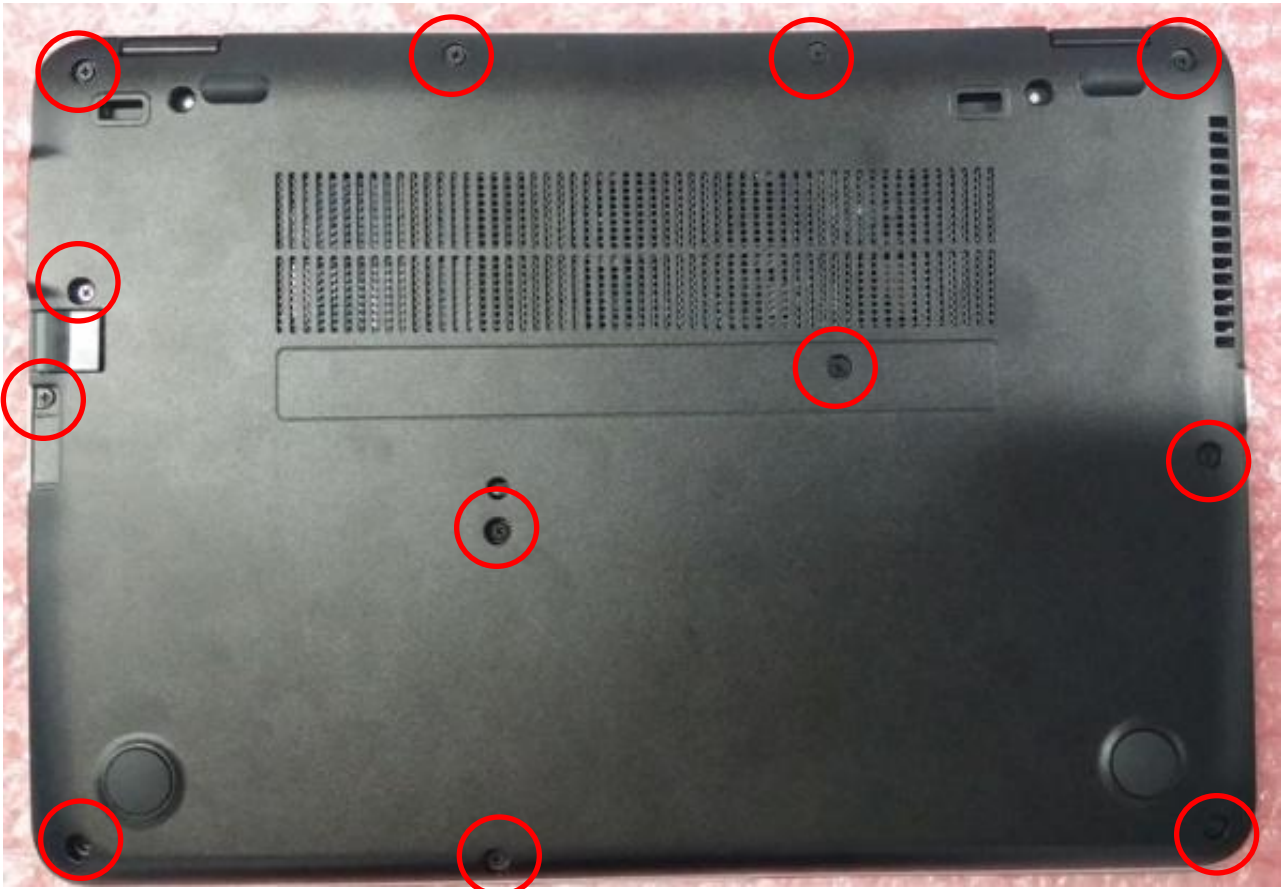

Fig.1
1. Loosen screw *12, then disassemble bottom case.(Fig.1)